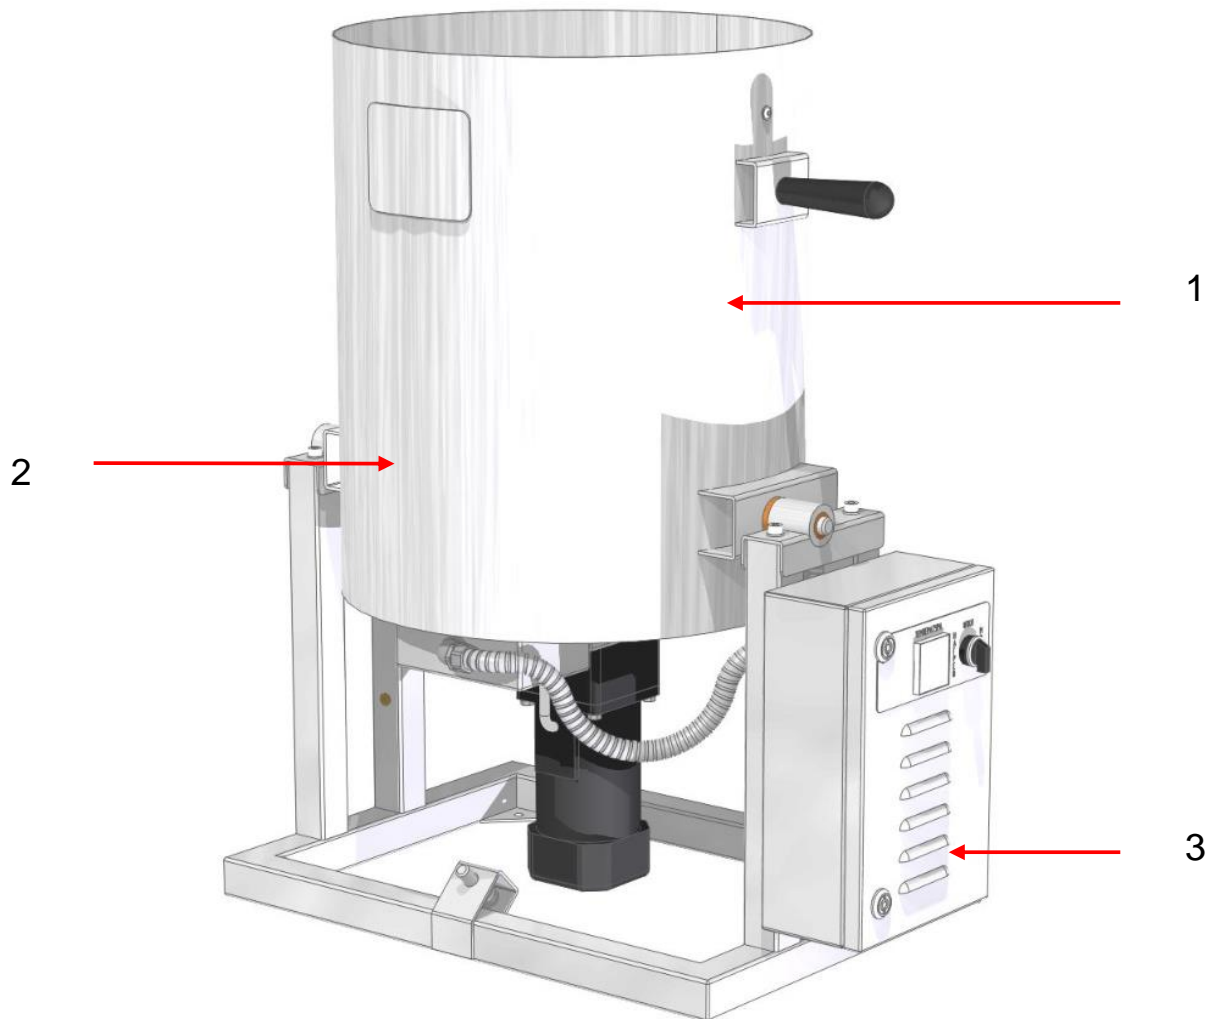

Fig.1 SugarLips CP-10 (mixer not shown)
SugarLips CP-10 general appearance is shown in Fig.1. The machine has a kettle (1), where caramel is being cooked and popcorn is being coated with caramel. A mixer (2) installed in the kettle allows proper cooking of caramel and popcorn coating with caramel. The machine is controlled via control panel (3).